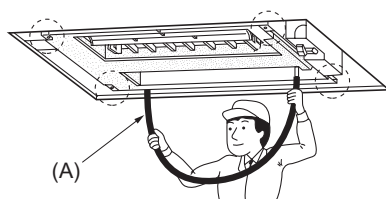

Fig. 3-8
- Check that the 4 corners are all level, using a spirit level or clear plastic tubing with water in it. (Fig. 3-8)